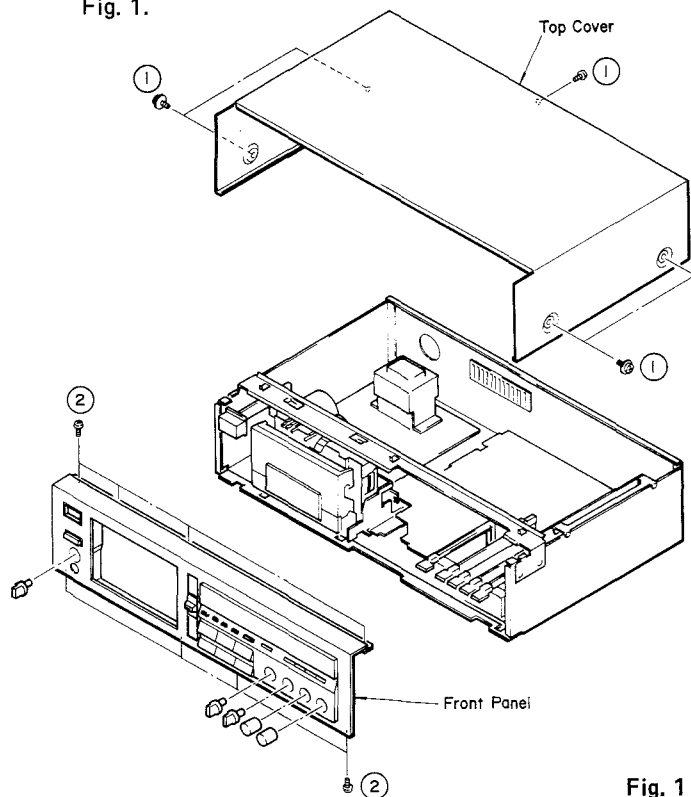

Fig. 1
Remove 5 screws (①) in Fig. 1.
- Pull off 5 knobs in Fig. 1.
- Remove 8 screws (②) then pull off front panel in Fig. 1.